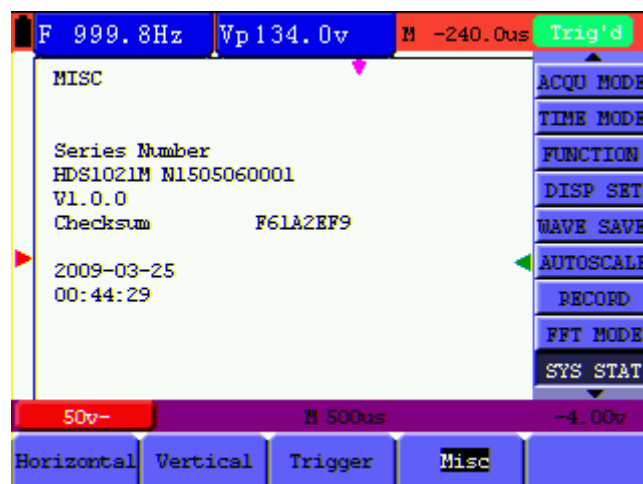

Fig.60: System Time
3. Press **F4** key and select **Misc** to display the system time, see Fig.60.